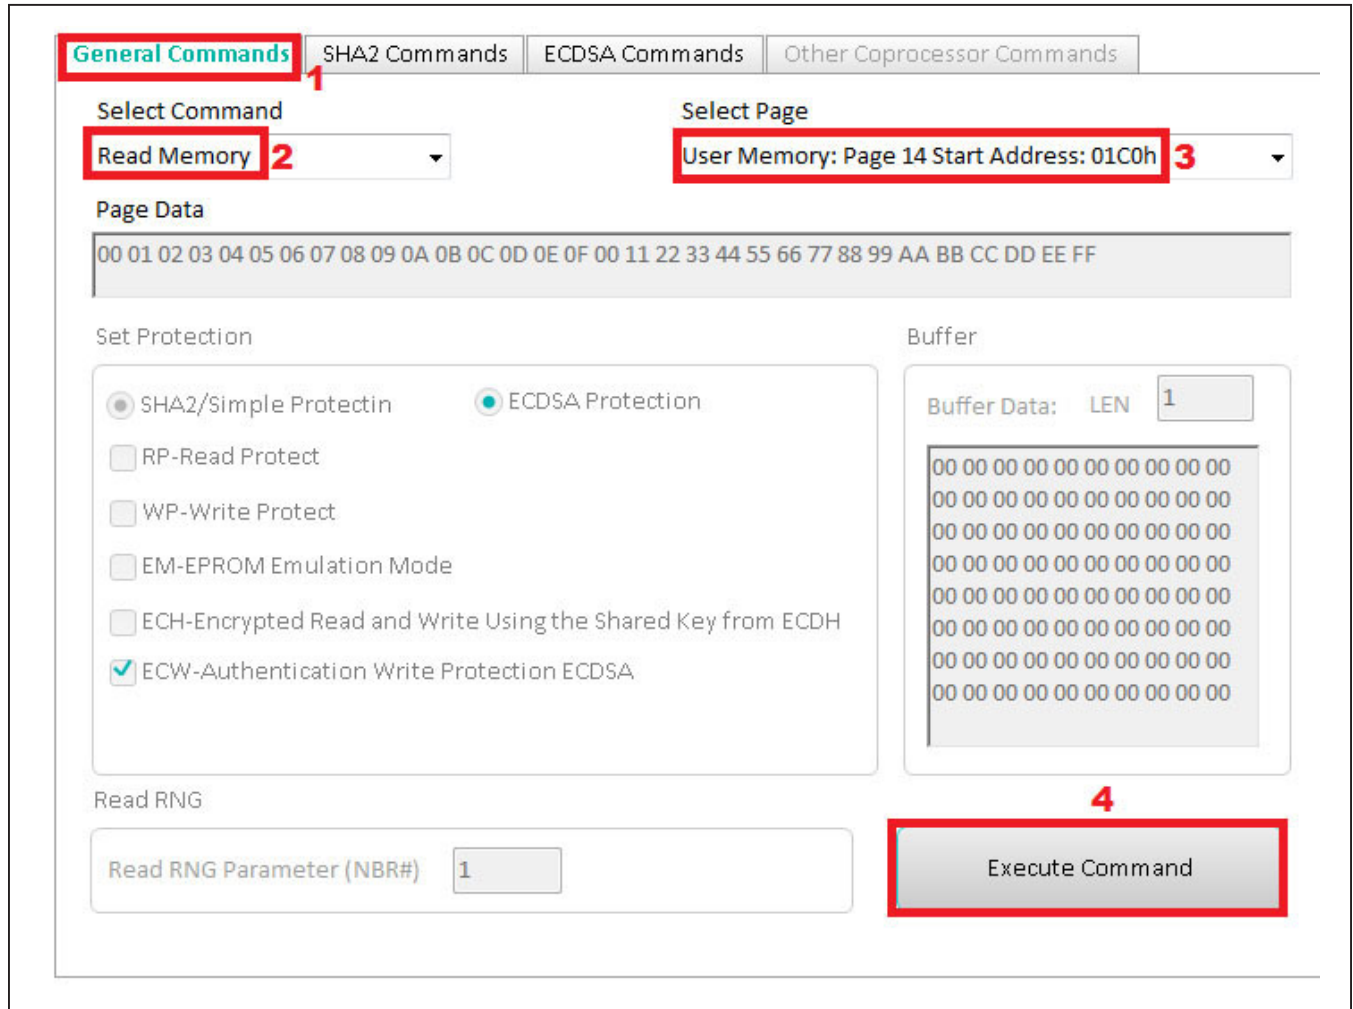

Figure 26. Read Feature Page 14
- 5) Perform a **Read Memory** on feature page 14 (old data) (Figure 26). Select the **General Commands** tab from the **Select Command** drop-down list, and choose **Read Memory**. From the **Select Page** drop-down list, choose **User Memory: Page 14 Start Address: 01C0h** and click on the **Execute Command** button. Confirm that the **Page Data** field populates with the correct values.